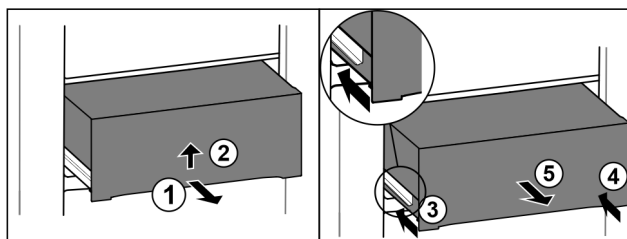

Fig. 57
- ▶ Pull the drawer out halfway Fig. 57 (1).
- ▶ Lift the drawer from the bottom Fig. 57 (2).
- ▶ Insert left rail Fig. 57 (3).
- ▶ Insert right rail Fig. 57 (4).
- ▶ Remove the drawer to the front Fig. 57 (5).